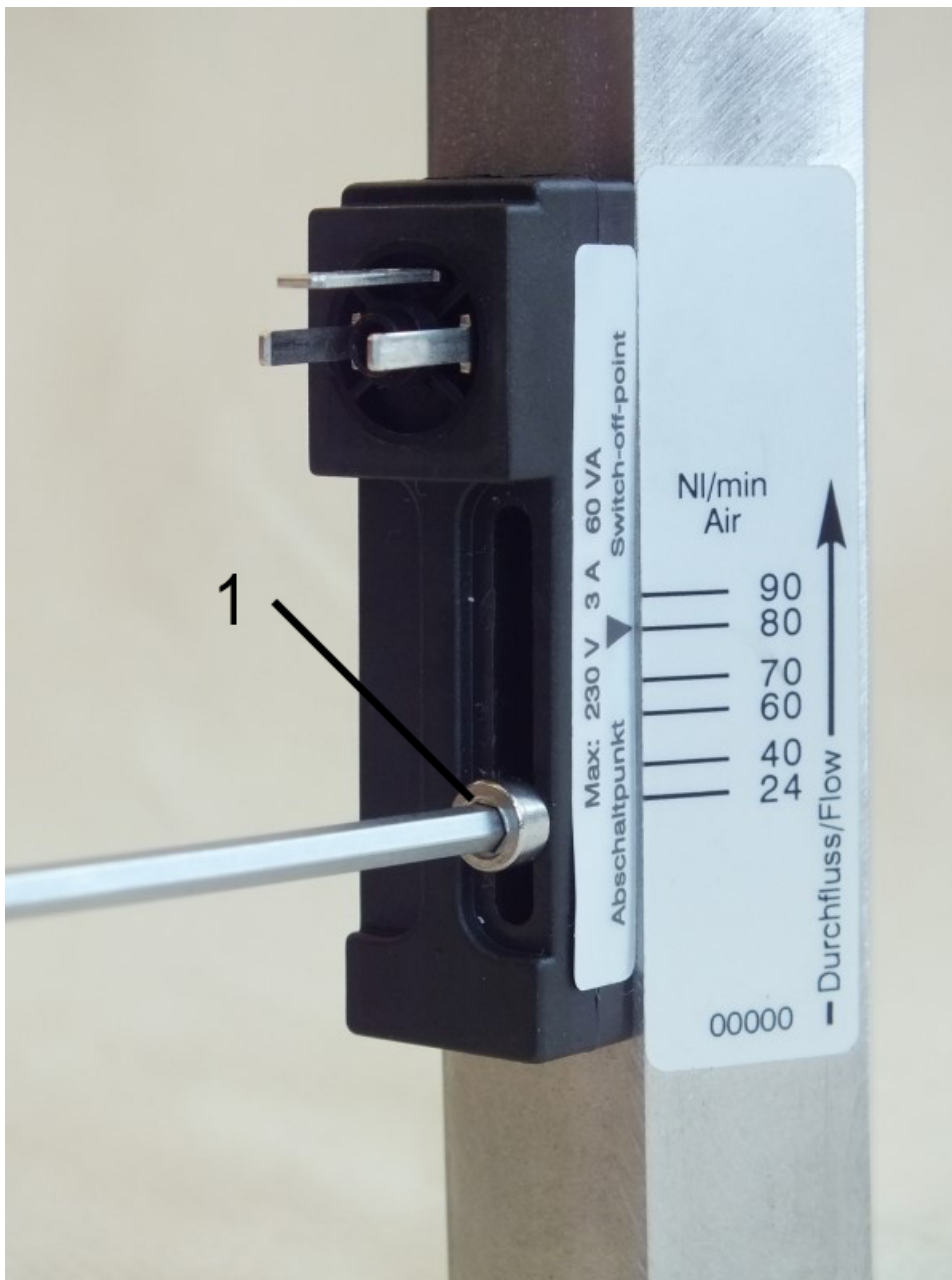

Fig. 33: Loosen the set screw
1. ➤ Loosen the set screw of the switch contact (Fig. 33/1) using a Hex-screwdriver.
3. ➤ Re-tighten the set screw of the switch contact (Fig. 33/1) using a Hex-Screwdriver. When doing so, observe the correct tightening torque of the screw.